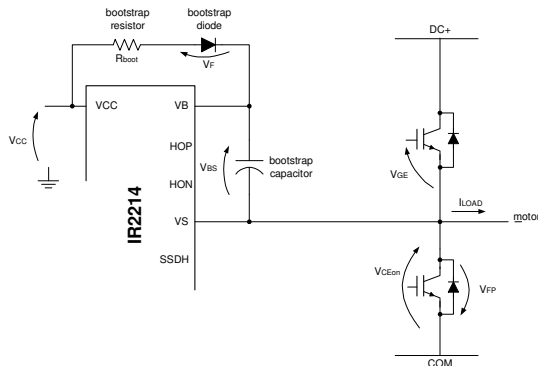

Figure 19: Bootstrap Supply Schematic
In the high side circuit, the desaturation biasing current may become relevant for dimensioning the bootstrap capacitor (see Fig. 19). In fact, a pull up resistor with a low resistance may result in a high current the significantly discharges the bootstrap capacitor. For that reason, the internal pull up resistor typical value is of the order of 100 k $\Omega$ .
The  $V_{BS}$  voltage provides the supply to the high side driver circuitry of the gate driver. This supply sits on top of the  $V_S$  voltage and so it must be floating. The bootstrap method is used to generate the  $V_{BS}$  supply and can be used with any of the IR211(4,41)/IR221(4,41) drivers. The bootstrap supply is formed by a diode and a capacitor as connected in Fig. 19.
Voltage Ripple: There are three different cases to consider (refer to Fig. 19).
**Bootstrap Resistor:** A resistor ( $R_{boot}$ ) is placed in series with the bootstrap diode (see Fig. 19) in order to limit the current when the bootstrap capacitor is initially charged. We suggest not exceeding 10  $\Omega$  to avoid increasing the  $V_{BS}$  time-constant. The minimum on time for charging the bootstrap capacitor or for refreshing its charge must be verified against this time-constant.